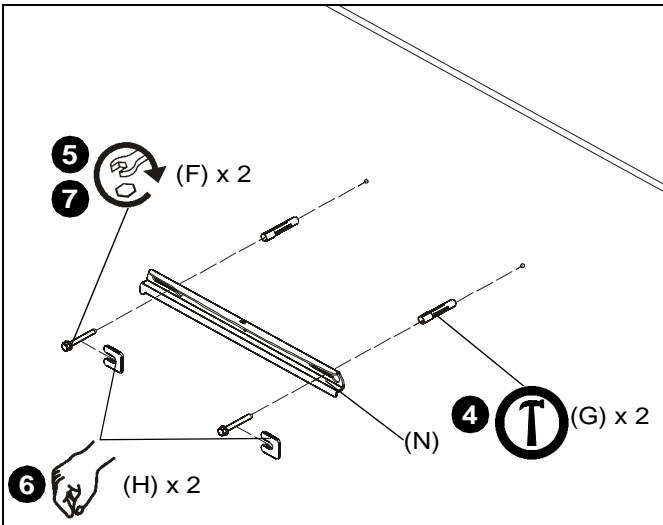

Figure 7
4. Install two concrete anchors (G) into two drilled holes. (See Figure 7)
5. Loosely attach wall rail (N) to wall by installing two 5/16 x 2-1/2" flange head lag screws (F) into concrete anchors (G). (See Figure 7)
6. Place two installation spacers (H) over two 5/16 x 2 1/2" flange head lag screws (F). (See Figure 7)
7. Tighten two screws to secure upper wall rail (N) to wall. (See Figure 7)